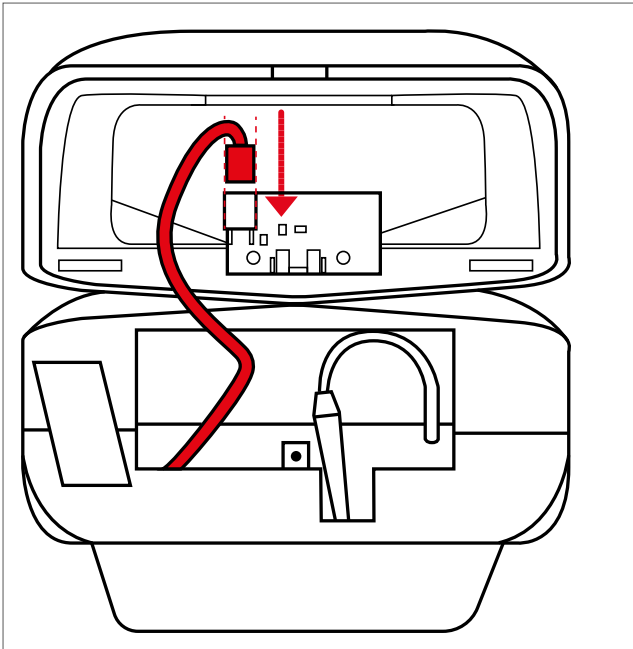

Figure 4.48 Connecting the charging cable
1. Connect the light cable connector to the light (Fig. 4.48).